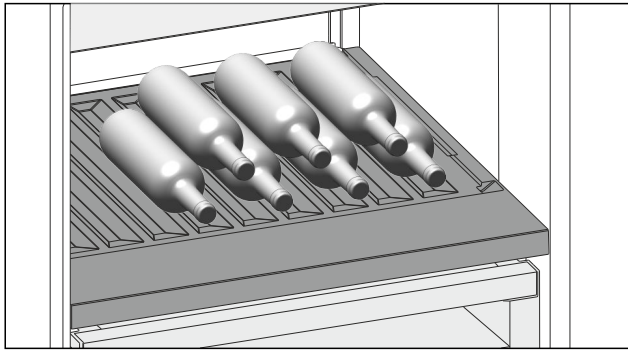

Fig. 158
- Place bottles in the back row with their bases against the back wall. (see Fig. 158)